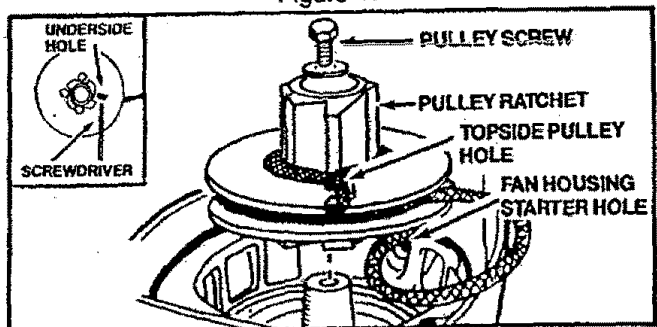

Figure 42
8. Remove the pulley screw in the center of the pulley. Figure 42.
13. Feed the rope through the housing and through the round starter hole. Figure 42.
14. Guide rope inside pulley, then through the topside pulley hole by pushing the rope from the underside hole with a small round object such as a Phillips screwdriver. See insert, Figure 42.